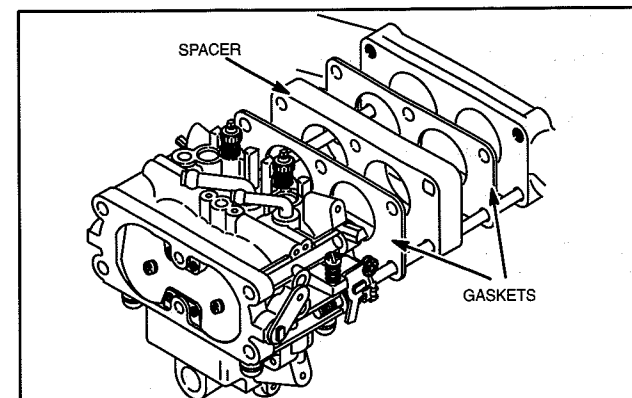

Fig. 66 – Install Carburetor
2. Assemble carburetor onto mounting studs, Fig. 66.